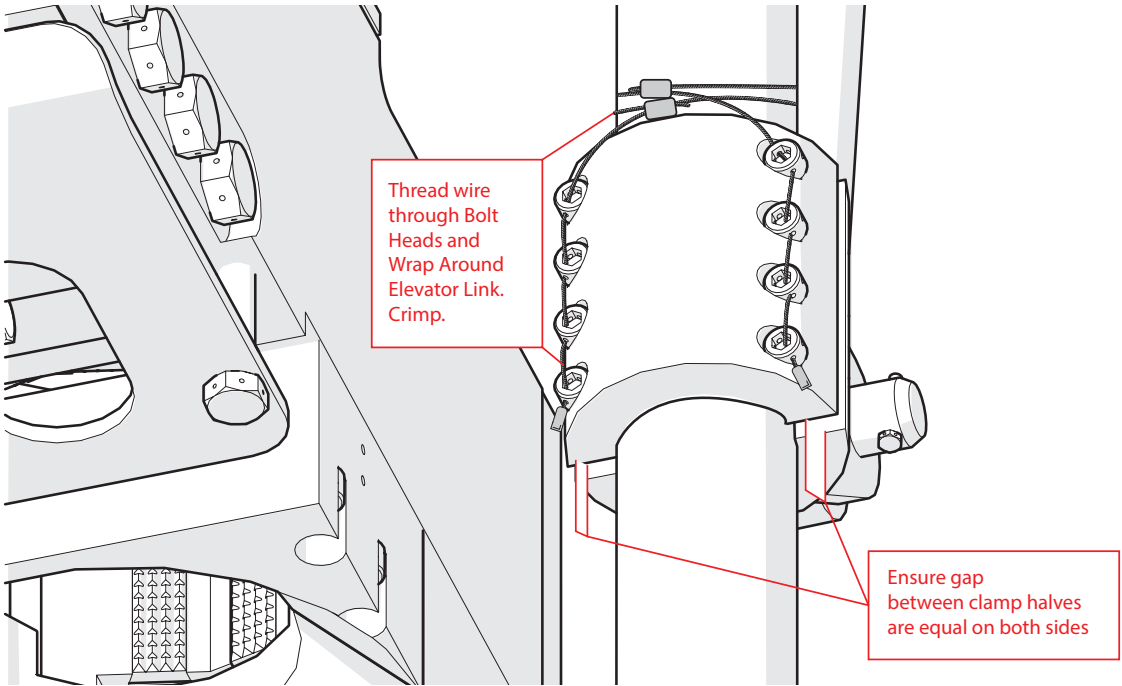

Figure 2: Add Safety Securement to Fasteners
- Ensure that the gap between both halves of the clamps are equal on both sides as shown in Figure 2.